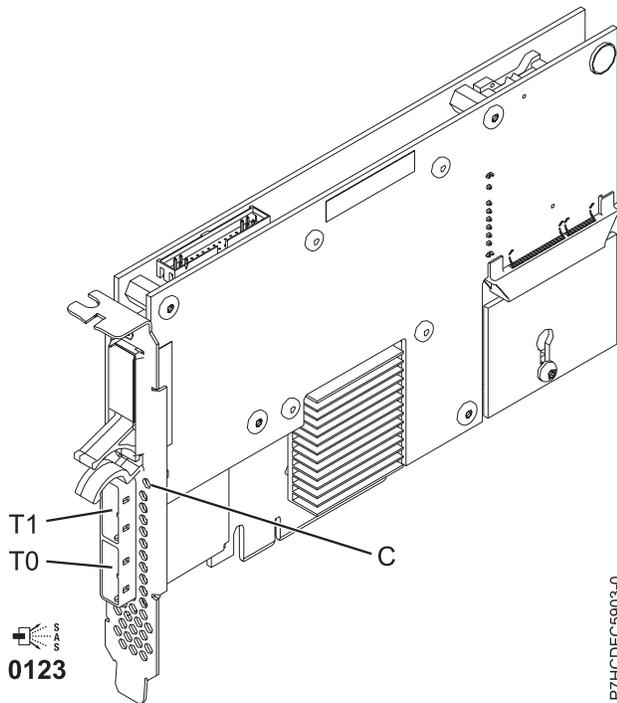

Figure 45. PCIe Dual - x4 3 Gb SAS RAID Adapter
The 5903 or 5805 contains a LED ((C) in Figure 45 on page 144) that flashes if the cache data is present. The cache-data present LED flashes when there is possible data in the cache on the adapter. If the cache data present LED is flashing, do not replace the cache battery pack. If replaced when the LED is flashing, the cache data is lost. See Figure 45 on page 144 to locate the cache-data present LED on this adapter.